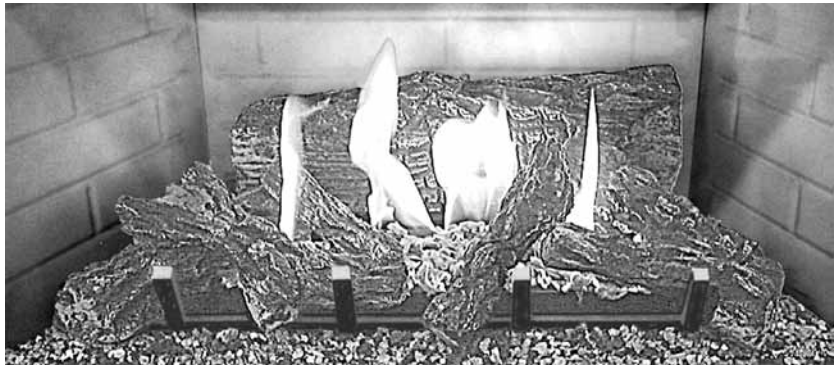

Figure 12 - MPB33
1. Refer to **Figures 12, 13, and 14** for proper flame appearance. To adjust the flame, move the rod up and down (the adjustment rod is located in the lower control area). Position the air shutter to the factory setting as shown in **Figure 15**.